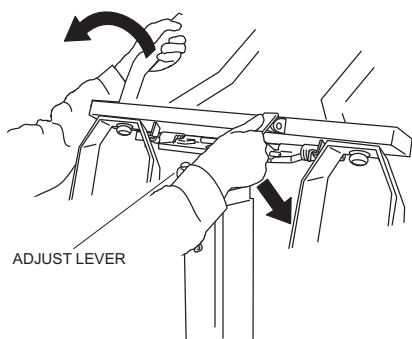

Figure 11. Adjusting Direction of Lighting Units
1. Loosen the adjust lever. Turn the lighting units in the desired direction (Figure 11).